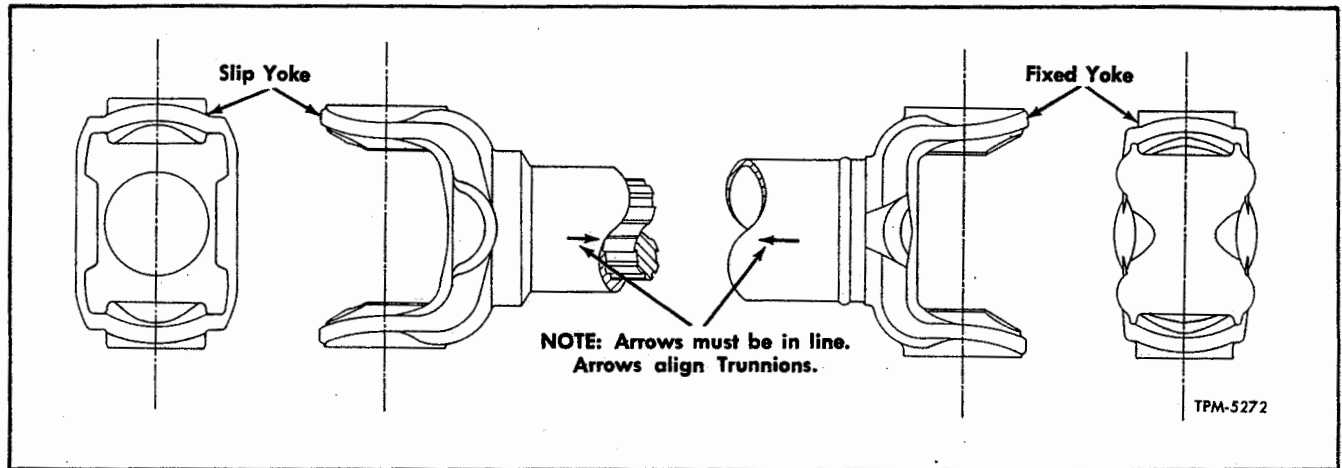

Figure 3—Yoke Alignment
a. Align arrows on slip yoke and end yoke. Make sure yokes are exactly aligned, as shown in figure 3.